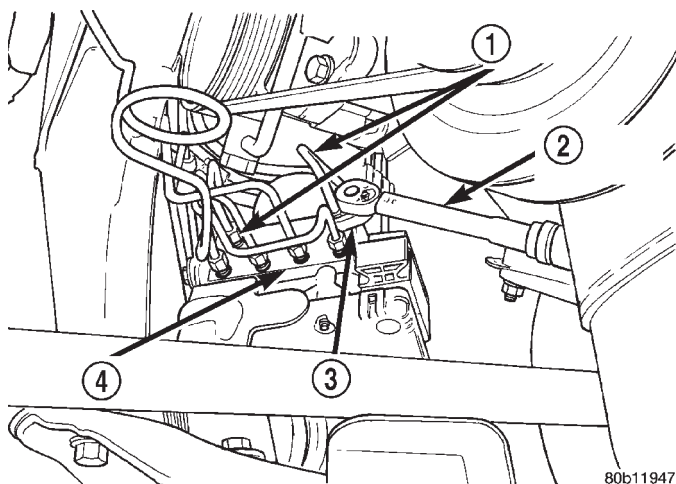
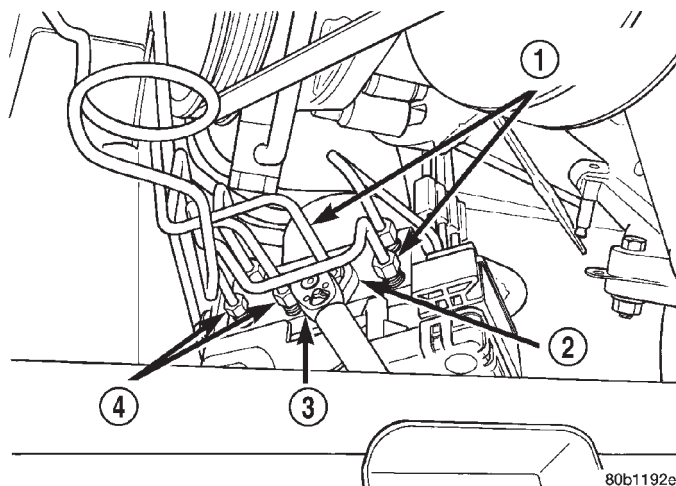

Fig. 37 Torquing Primary And Secondary Brake Tube Nut
Fig. 38 Torquing Chassis Brake Tube Nuts
(10) Using a crow foot (Fig. 37) and (Fig. 38) tighten all of the brake tube nuts to a torque of 17 N·m (145 in. lbs.).